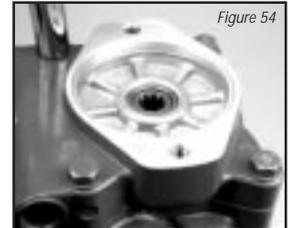

Figure 54
**24** Carefully install the endcover assembly by aligning it with the dowel pins located in the pump housing. Use caution not to dislodge the valve plate (see Figure 54).
**26** With the gerotor assembly installed, install new o-ring into charge pump adapter plate and place adapter onto endcover over gerotor. Retain with cap screws. Torque cap screws to 25 N•m [18.5 lbf•ft] (see Figure 54).